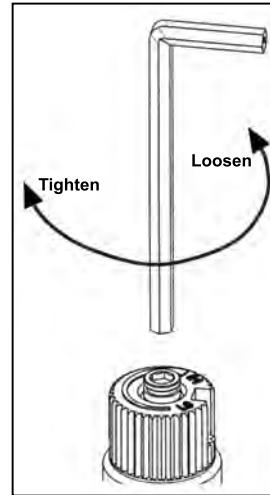

Figure 10: Removing
- Insert a $\frac{5}{32}$ " or 4 mm Allen wrench into the hexagonal key-way of the screw (see Figure 10), rotate it counter-clockwise until it is free and extract it.
- Using the Allen wrench as shown in Figure 10, rotate the screw clockwise until a torque of 9 inch lbs. **WARNING!** Do not over tighten the screw. It is recommended that you grip the wrench by the short side.